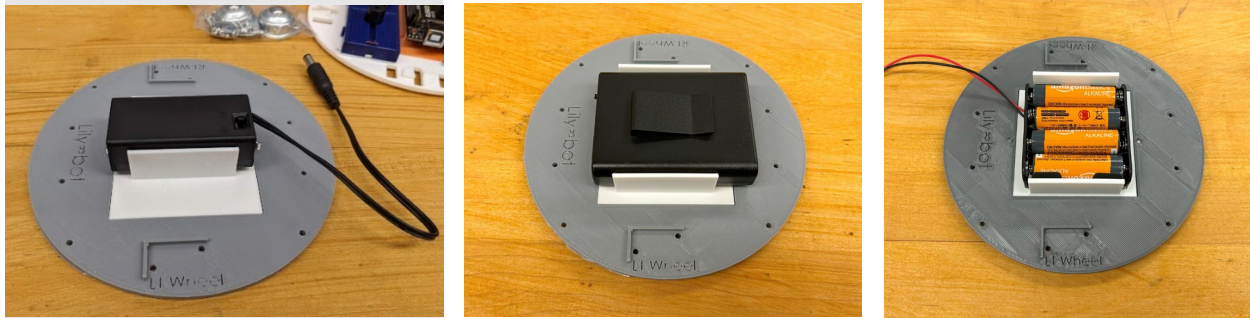

Figure 5: 9V, Pico, and AA battery packs inserted in battery pack module on robot base
4. Figure 5 shows the various batteries inserted into their corresponding battery holders. Each battery pack may be inserted at any time during the robot assembly process. Note that the robot will ship without batteries.